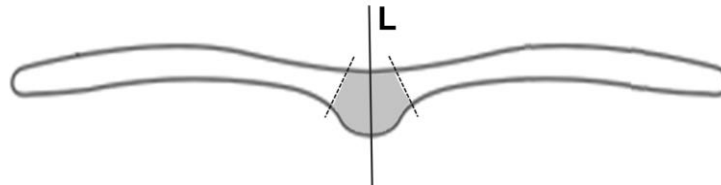

Fig. 3.1
- (a) Use your microscope to observe the different tissues in the region of slide **K1** shown by the shaded area in Fig. 3.1.
- (i) Select the largest cell in the region of slide **K1** shown by the shaded area in Fig. 3.1.
- (ii) Use the space provided to draw a large plan drawing of the part of the leaf on slide **K1** shown by the shaded area in Fig. 3.1.
- (b) You are required to determine the thickness of the leaf on slide **K1**, along the line **L** labelled on Fig. 3.1 using low power (x4 objective lens).
- (iii) Using your answer to **(b)(ii)**, determine the thickness of the leaf on slide **K1**, along the line **L** labelled on Fig. 3.1.